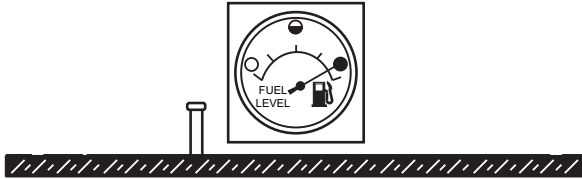

Figure 33. Full Fuel Tank
3. **NEVER overfill the fuel tank** — It is important to read the fuel gauge when filling the trailer fuel tank. **DO NOT** wait for fuel to rise in the filler neck (Figure 33).